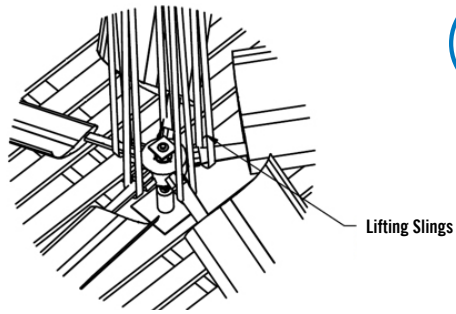

Figure 28. Attached to Blade Shanks
2. Wrap or loop slings around blade shanks (**Figure 28**).